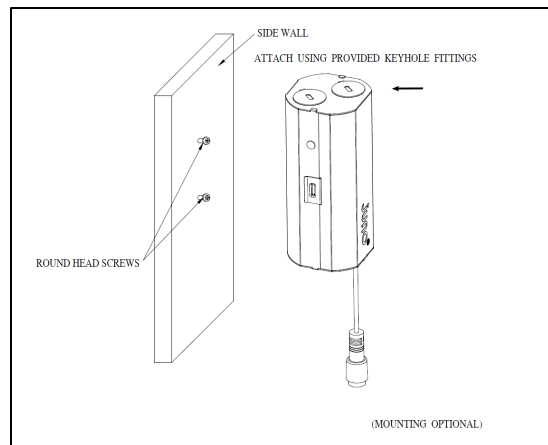

Figure 5
- Place remote driver box through the cut-out hole (Figure 5). **MUST follow local electric code** for rigid attachment and placement of the remote driver box. For optional mounting kits, the instruction sheets for new construction plate and joist bar kit can be found at www.acuitybrands.com